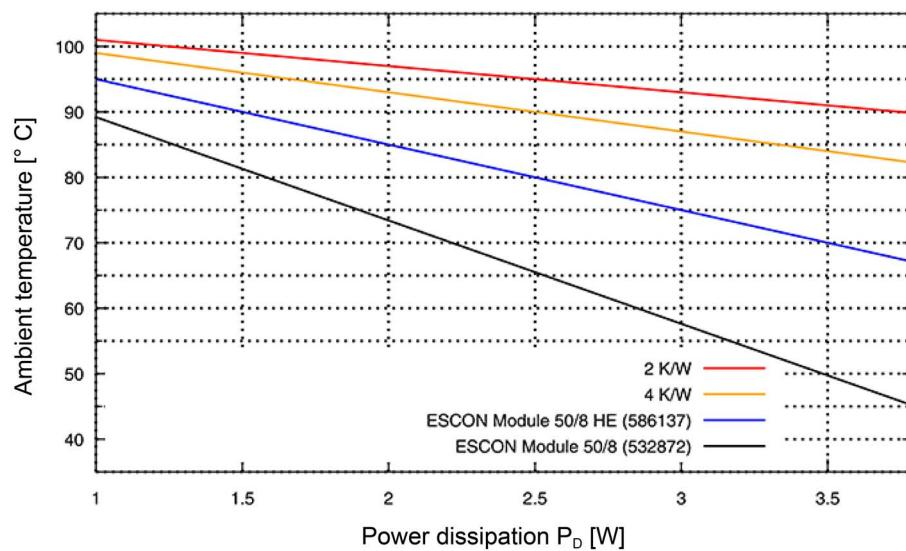

Figure 2-2 Derating Ambient Temperature / required Heat Sink
Extended range ^{*1)}	6'000...10'000 m MSL Derating: Ambient temperature (→ Figure 2-2) less 11 °C
3) **→Figure 2-2**